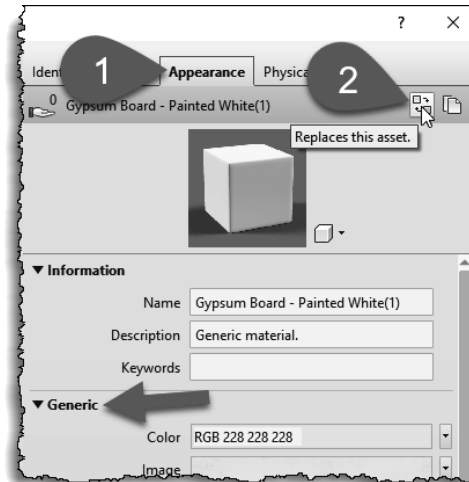

FIGURE 4-3.13 Replace asset icon
Next you will need to replace the *Appearance* asset with one specifically meant for paint. Currently it is set to *Generic* and not *Wall Paint* as pointed out in Figure 4-3.13.
42. Click the **Replace this asset** icon (Figure 4-3.13).